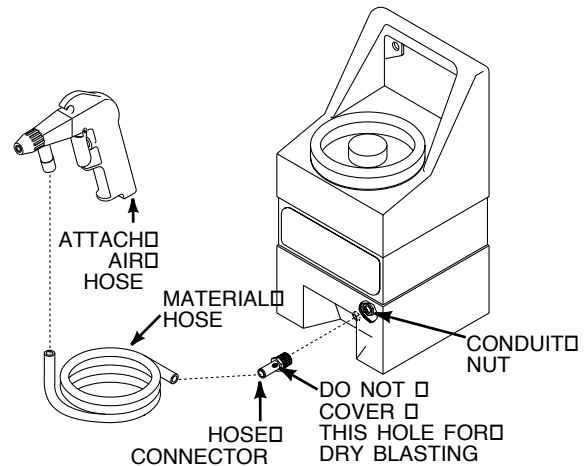

Figure 5 – Model AT121002AJ - 60 LBS
2. Attach the material hose to the hose connector. Attach the opposite end of the material hose to the gun (See Figure 5).